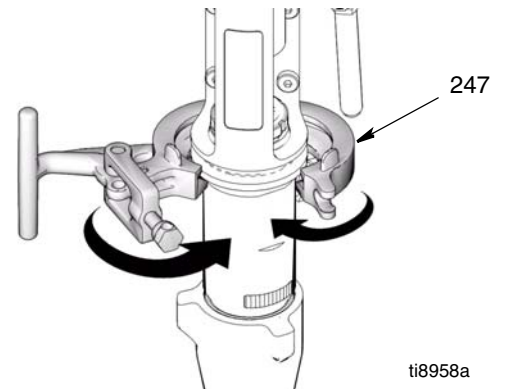

FIG. 15
3. (FIG. 15) Close clamp (247) around pump (111) and push it closed.